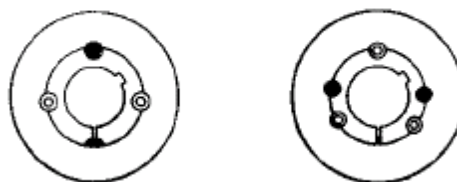

Fig. 10-7 Pulley holes
3.- Fit the bush into the hole in the pulley, taking care to align the threaded half-holes on the pulley with the unthreaded half-holes on the bush (Photo 27). There may be 2 or 3 of these holes (Fig. 10-7), as can also be seen in Chart 10-1, depending on pulley size.